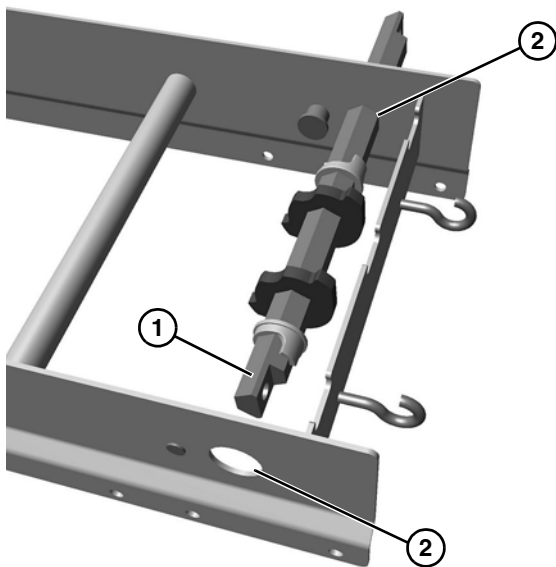

Figure 19
2. Place hex shaft assembly (**Figure 19, item 1**) through the conveyor frame tip up holes (**Figure 19, item 2**) and center with conveyor.